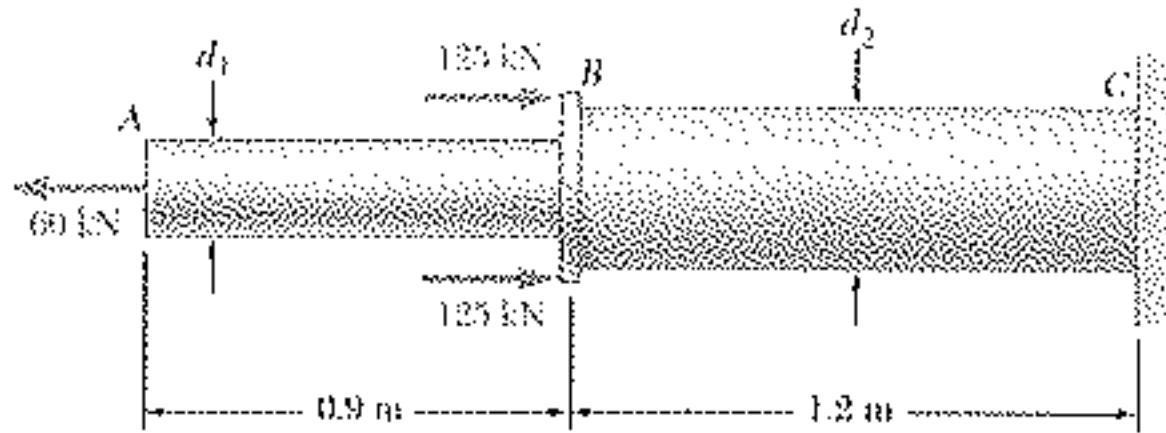

Figure 3
3. Two solid cylindrical rods AB and BC are welded together at B and loaded as shown in figure 3. Knowing that the average normal stress must not exceed 150 MPa in either rod, determine the smallest allowable values of the diameters d_1 and d_2 .